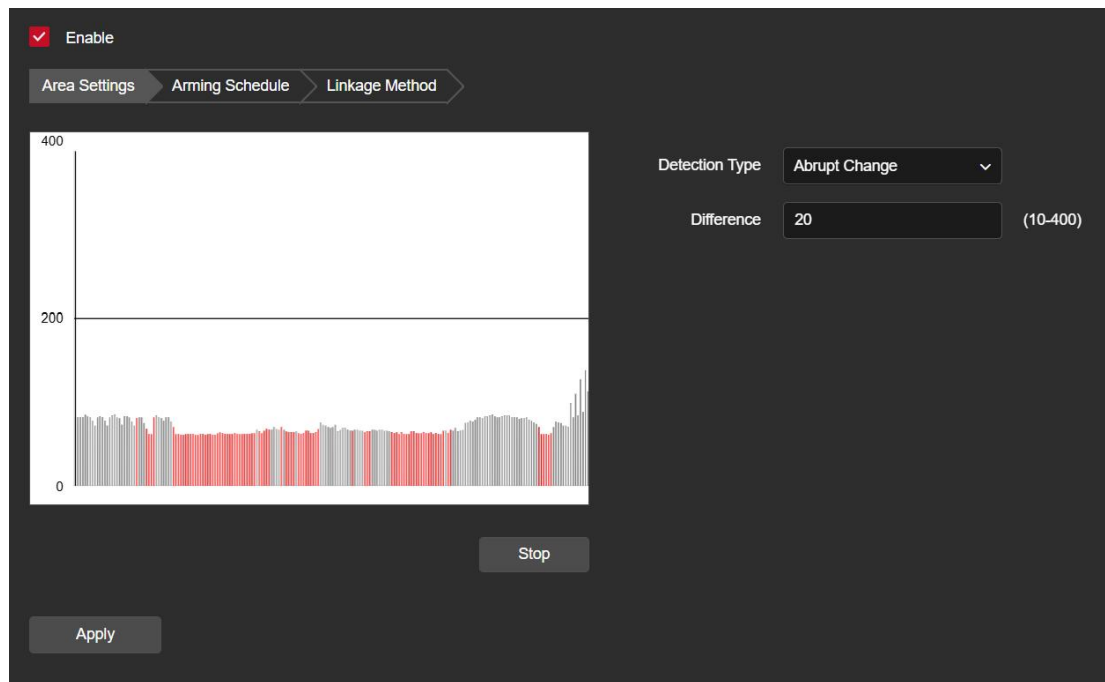

Figure 8-6-15
Step 1: On the main interface, click "Configuration → Events → Common Events → Sound Detection" to enter the sound detection interface, as shown in Figure 8-6-15 below.